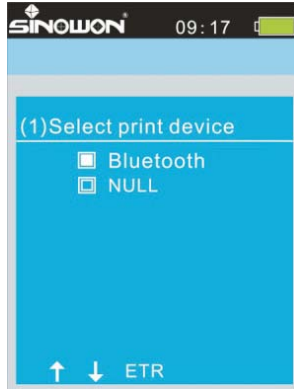

Fig 6-5-17
- **Select print device**——Press [ETR] select print device: Bluetooth /NULL; select “Bluetooth” to connect Bluetooth printer; select “NULL” means do not connect any printer. Fig 6-5-17, the current device is “Bluetooth printer”.